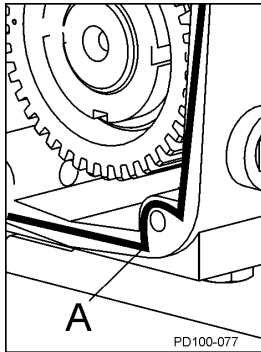

Figure 76 - Sealant Placement
3. Apply silicone sealant to the back of the gear case. (Gore-Tex[®] sealing tape can be used on silicone-free models.) Place the tape on the inside of the screw holes (Figure 76, item A).